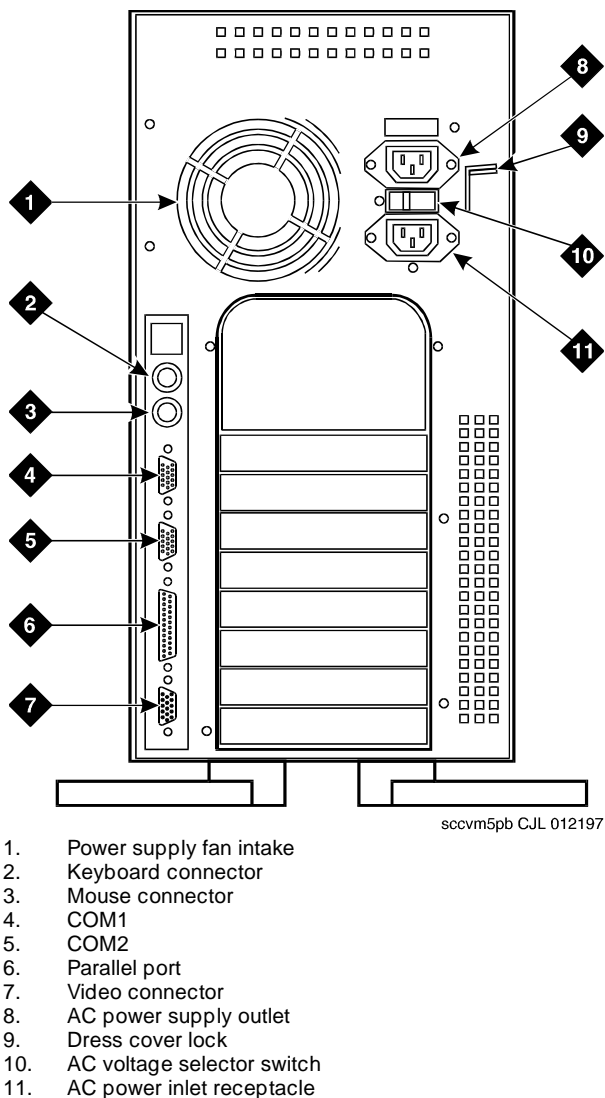

Figure 4-5. Back View of the MAP/5P
The MAP/5P requires a dedicated circuit with a dedicated circuit breaker. The power cord connects to the rear of the MAP/5P at the point labeled AC power inlet receptacle (Figure 4-5). Before you begin any work in the MAP/5P complete the following procedure to remove power from the MAP/5P.
1. Place the dress cover lock (Figure 4-5) in the open position.
Figure 4-5 shows the dress cover lock in the locked position.